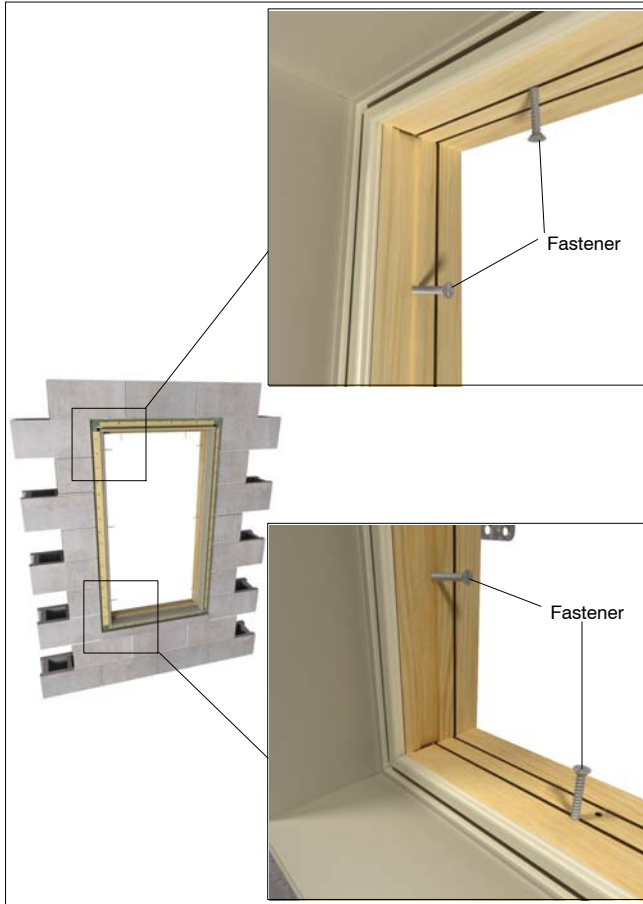

Figure 8: Exterior view, fastening through Ultimate Casement frames.
- On **Ultimate Casement** units, position the screw so that it misses any operating hardware (if applicable). With typical installations, you should be able to locate the screw in the center groove in the frame and just to the exterior of the kerf that holds the head jamb stop. See figure 8.